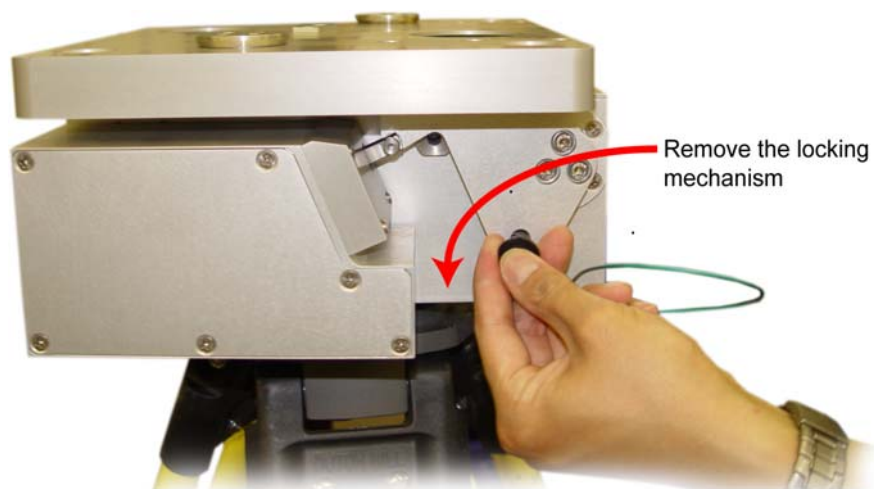

Figure 22: Removing the locking pin from the pan/tilt base
3. Remove the locking pin from the pan/tilt base (Figure 22).